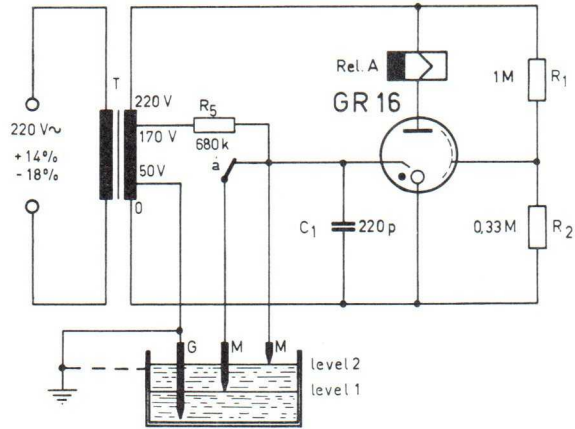

Fig. 4
3.2.2 Baissed-on circuits, Fig. 4